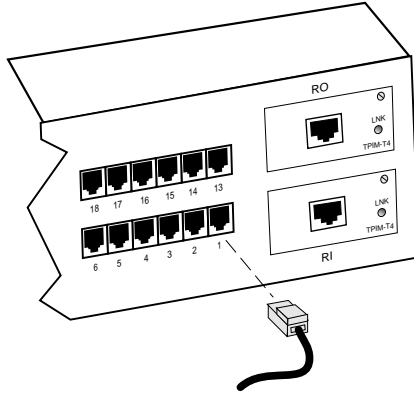

Figure 3-10. TRXI Network Ports
1. Insert the RJ45 connector from each twisted pair segment into the desired RJ45 network lobe port number on the TRXI as shown in Figure 3-10.